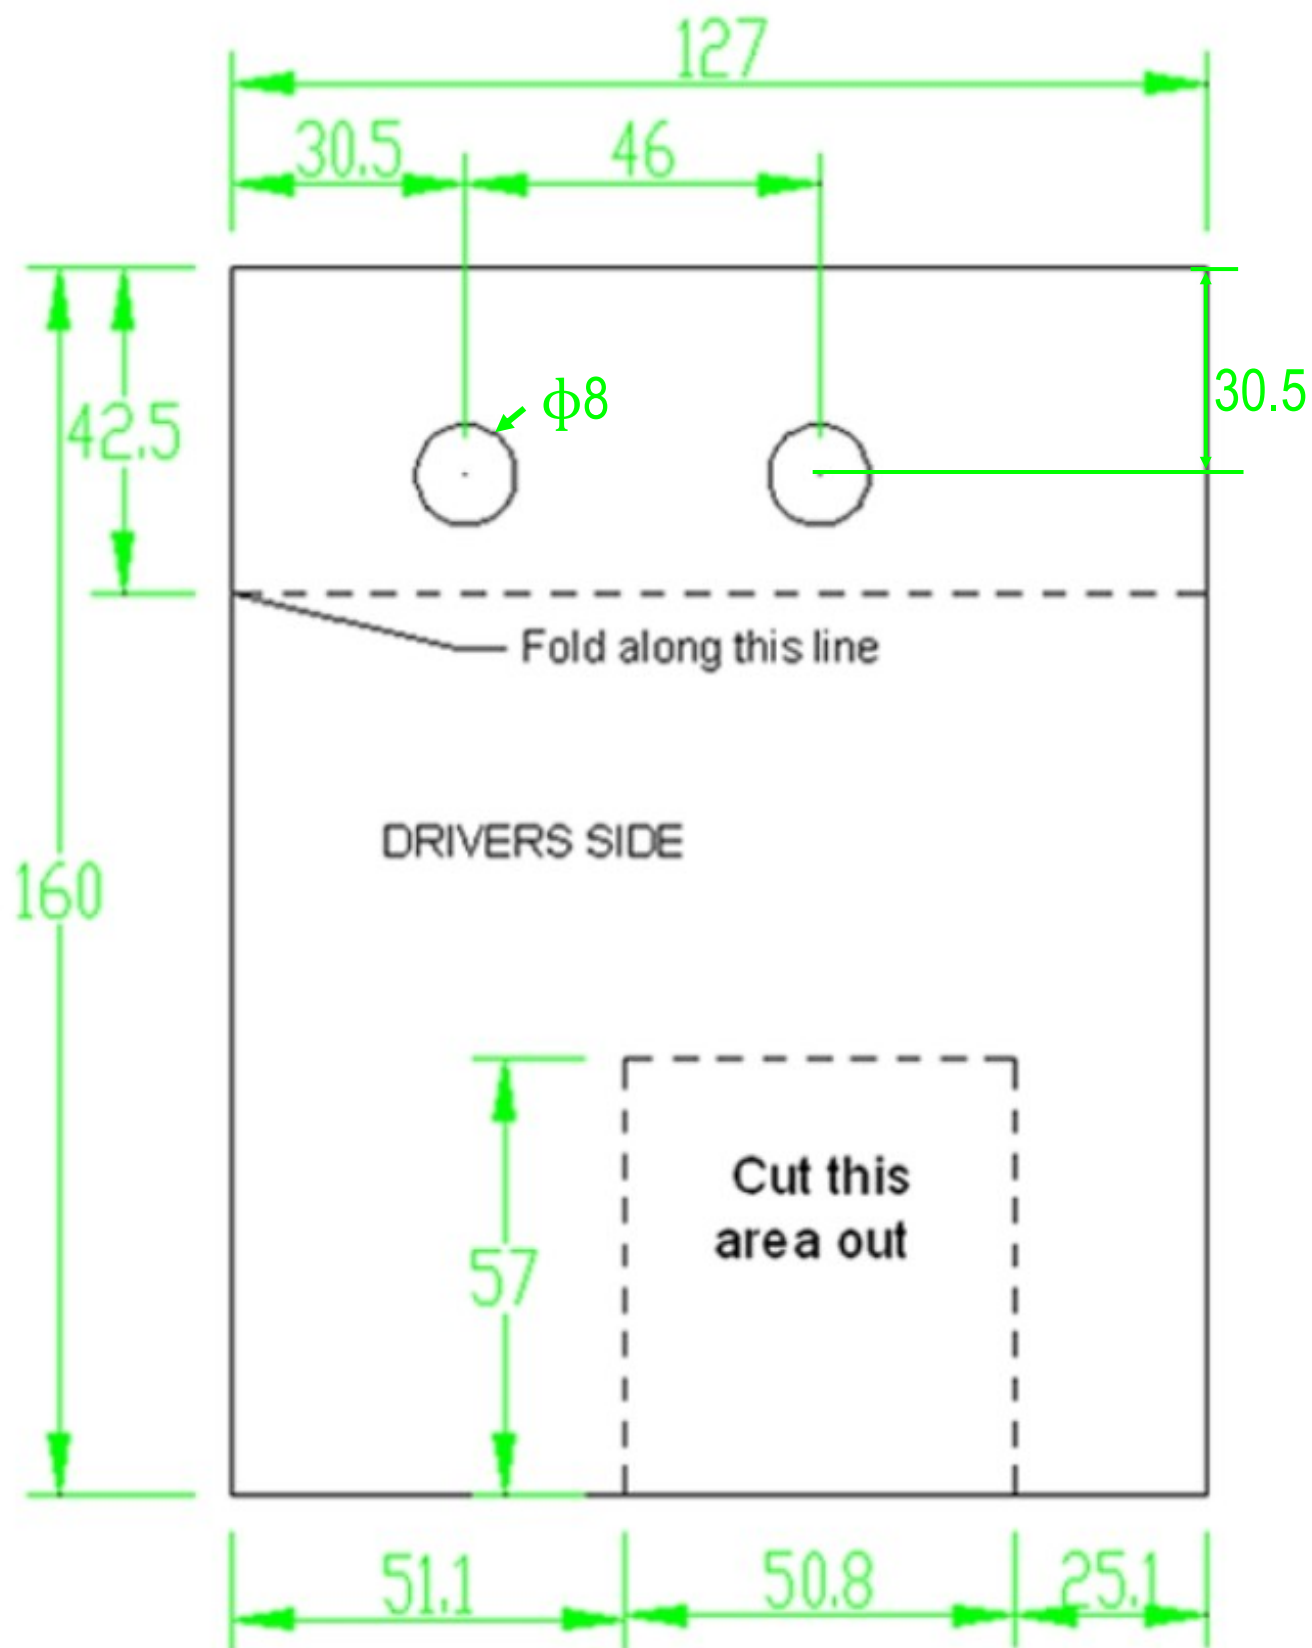

Fig 14
Cut out the paper template on **Fig 14 & 15** labeled "Driver Side". Cut out the square section on the bottom of the Template and the (2) 8mm holes on the top. Fold the top of the Template up along the dotted line, (**Fig 2**). Hold the Template in place over the outer (2) factory 8mm threaded holes next to the pinch weld, (**Figs 3 & 4**). **IMPORTANT:** There are (4) threaded holes at each mounting location, (2) inner on bottom of frame channel and (2) outer next to pinch weld, (**Fig 5**). Hold the correct Template over the outer threaded holes and up against the plastic cover, (**Fig 4**). Use a marker to trace the cut out section on the bottom of the Template onto the plastic cover. Repeat this Step to mark the rear bracket location for cutting.